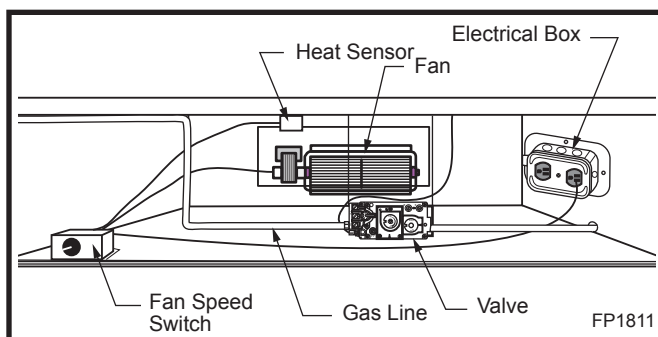

Fig. 78 FK24 fan placement.
1. Slide fan assembly from the left side into the fireplace opening, line up mounting holes with screw studs on back of fireplace and fasten with #10 - 24 hex nuts. (Fig. 78)